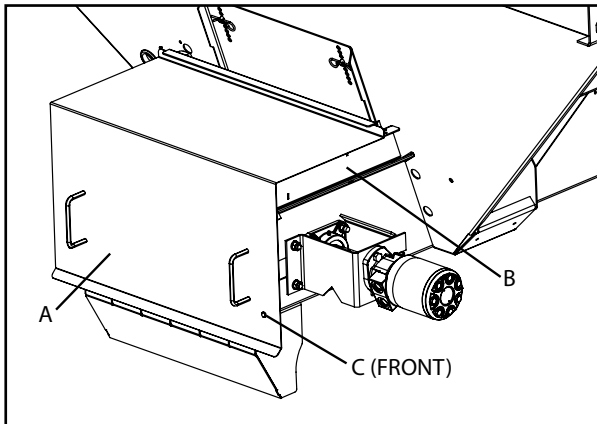

Figure 15 - MULTAPPLIER Dual Conveyor Cover
Loosen hardware from rear two chain shield holes on each side of MULTAPPLIER. Install MULTAPPLIER Hillside Divider (A) and fasten to Support using single bin Hillside Divider hardware removed before MULTAPPLIER installation (B). Adjust Hillside Divider so that the middle divider is centered over both conveyors and the Material Divider (C) as shown in Figure 15. Tighten all hardware to recommended torque.